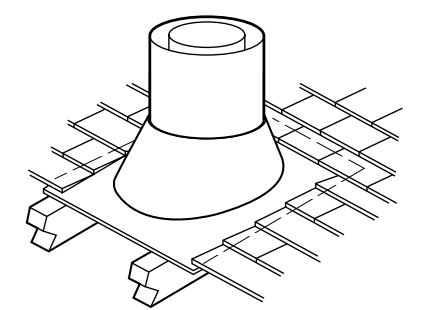

Figure 29
Step 7. Secure flashing by nailing along the perimeter into roof using 8d nails. If shingled roof, slide upper end and sides of roof flashing under shingles (trim if necessary), seal the top and both sides of the flashing to the roof with roof caulking. Cover nail heads with roof caulking (*Figure 29*).